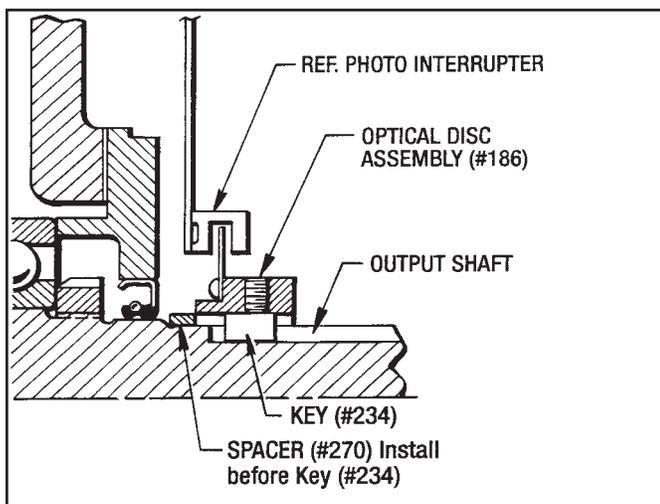

Figure 6.8 - Optical Disc and Hub Positioning
1. First slide the Spacer (#270) onto the output shaft as far as it will go. Install Key (#234), then slide the Optical Disc Assembly onto the output shaft, butting it up against the Spacer. (See Figure 6.8)
5. Attach the Disc Housing (#17) to the output end of the *Posidyne* with the (4) Screws (#76).
7. Carefully insert the Circuit Board (#355) into the top of the Disc Housing making sure the (3) Photo Interrupters straddle the Optical Disc. (See Figure 6.8)